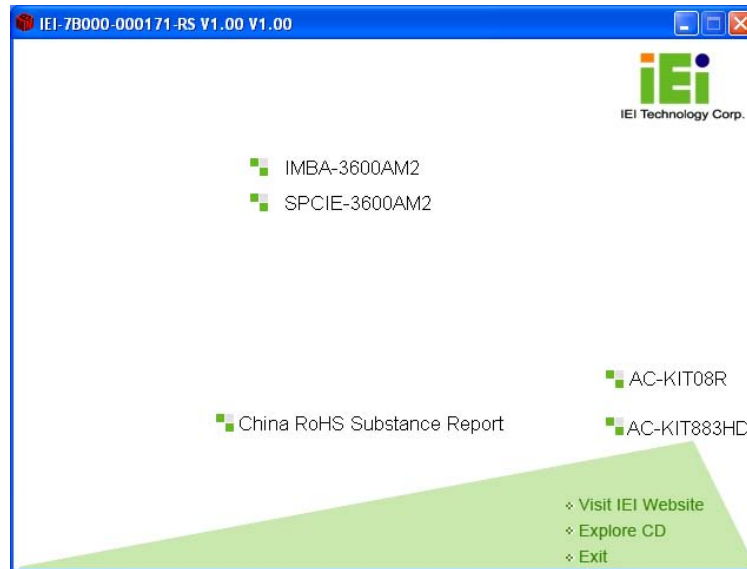

Figure 8-1: Introduction Screen
Step 2: The driver main menu appears (**Figure 8-1**).